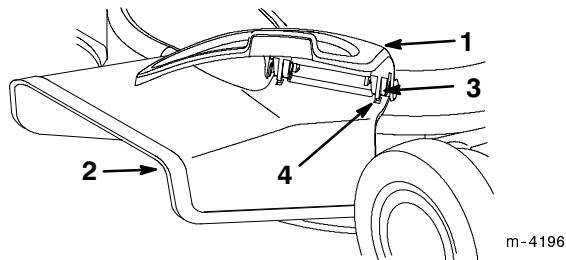

Figure 41
5. Slide the chute over the opening with the slots in the chute lined up with the tabs under the cover (Fig. 41).
3. Open the side opening cover and remove the side discharge chute (Fig. 41).